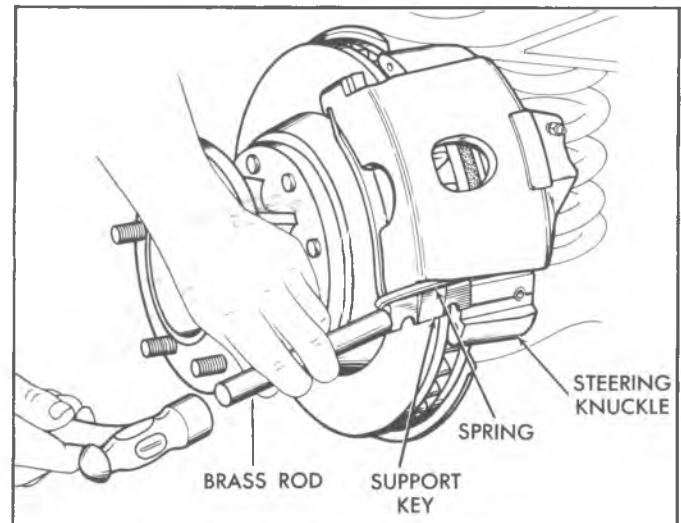

Fig. 103--Installing the Caliper Support Key
6. Place the spring over the caliper support key, install the assembly between the steering knuckle and lower caliper groove. Tap into place (until the key retaining screw can be installed) using a brass punch and a light hammer (fig. 103).